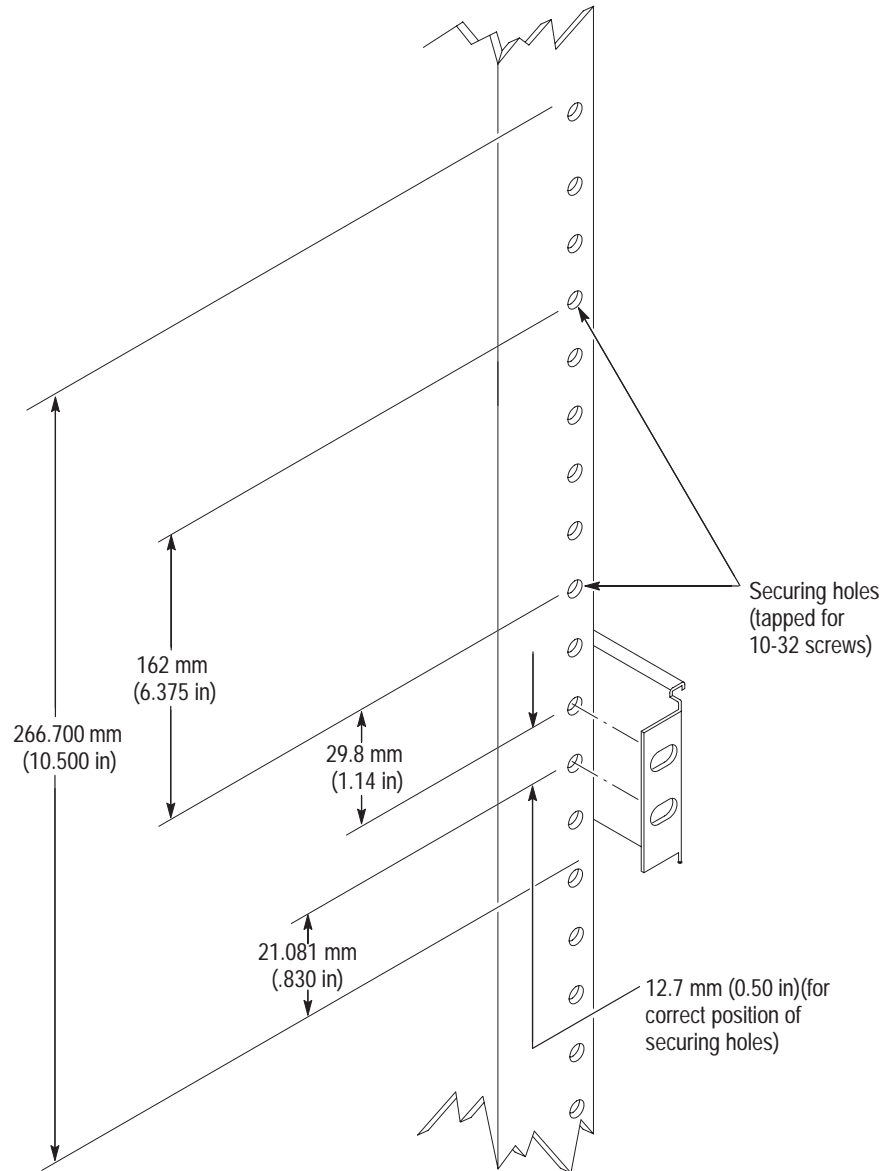

Figure 10: Vertical clearances for rack installation (left-front rail shown)
- a.** *Select the mounting position in rack:* Select two 0.5 inch-spaced holes in the front rail. Verify that the 4.36 inch and 10.500 inch clearances exist relative to those mounting holes. See Figure 10, page 19.